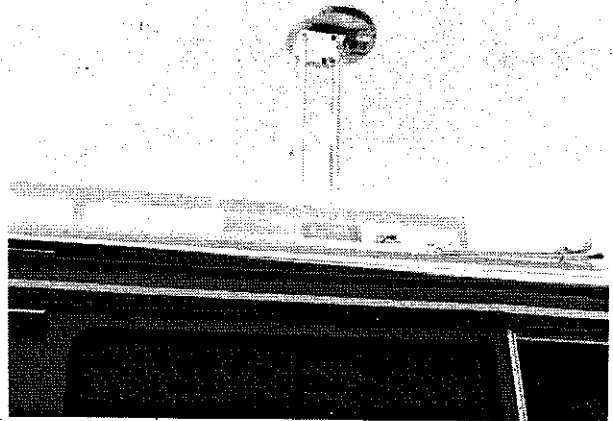
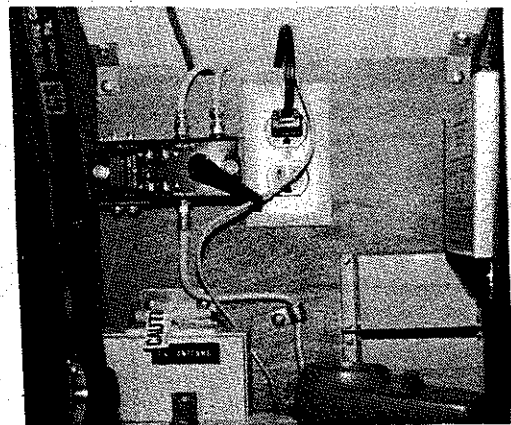

Figure 2-17. Extendable TV Antenna Radome
Figure 2-18. Antenna Control Panel
- Roof-mounted TV antenna, figure 2-17, and remote control panel, figure 2-18, located in the overhead cabinet above and to the rear of the cockpit.